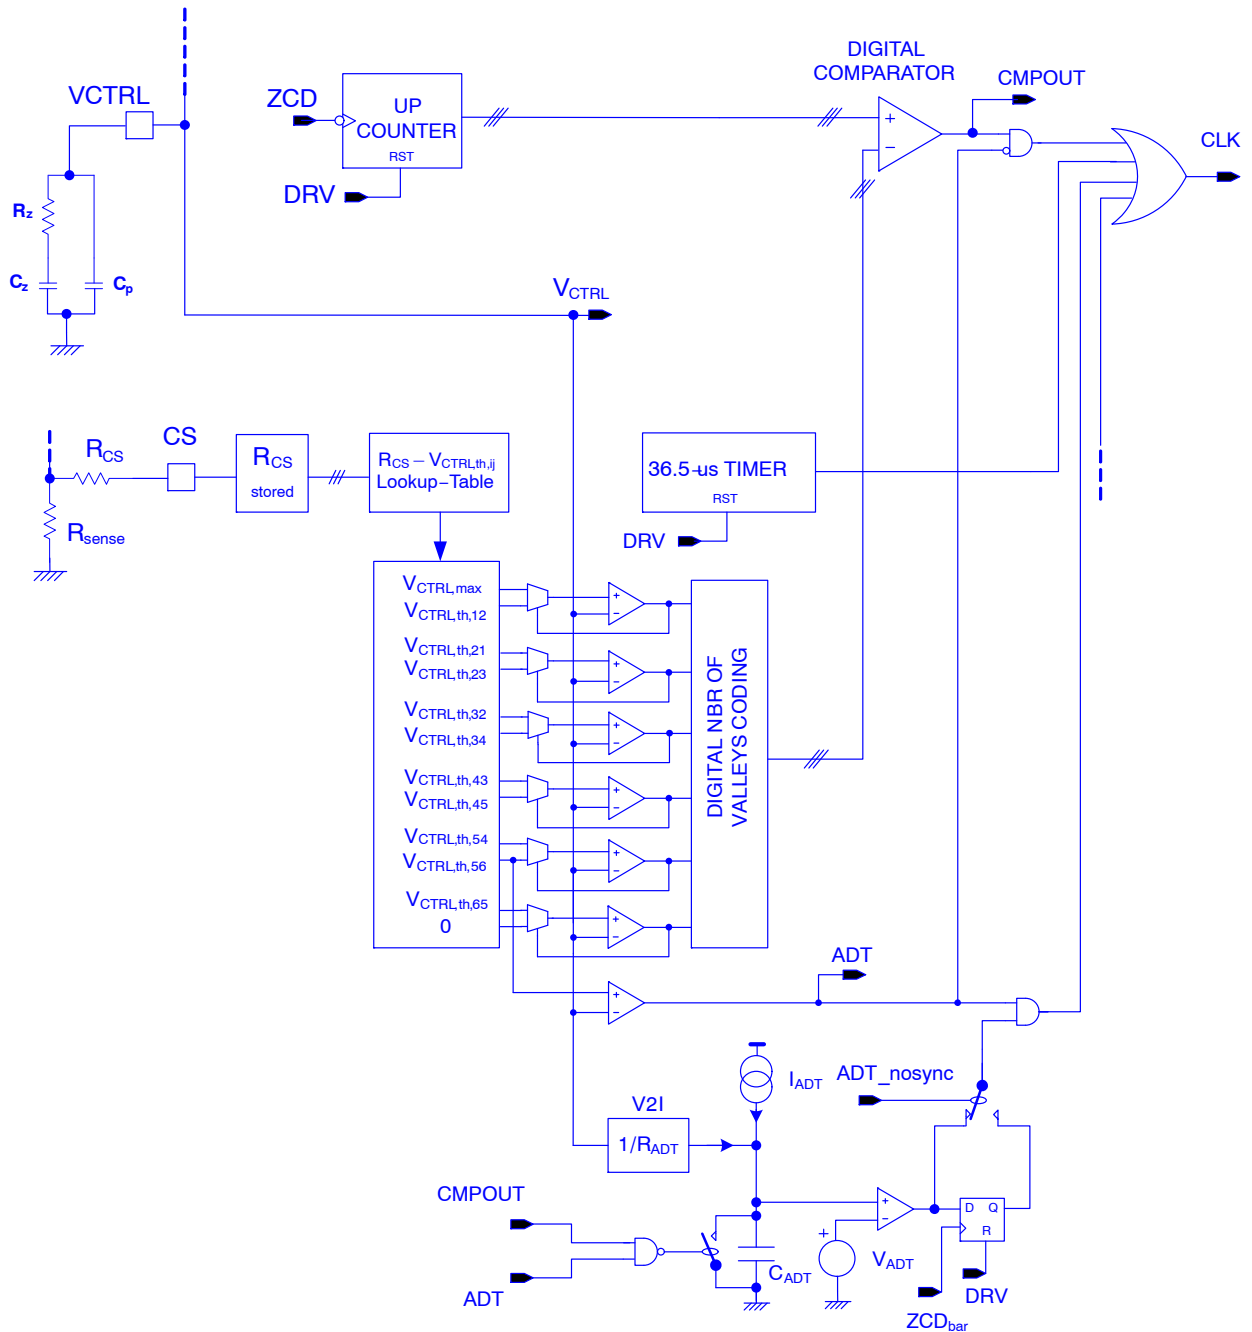

Figure 4. Valley Count Turn-on Block Diagram
- **Valley Count Frequency Fold-back:** NCL2801 is designed to drive PFC boost stages in so-called Valley Count Frequency Fold-back (*VCF*). In high load current condition, the circuit classically operates in *Critical conduction Mode (CrM)* also called 1st valley switching. When output power is decreasing, if a threshold is reached (determined by sensing the CS pin impedance during initial power up), a dead time based on a number of valleys is added. The number of valleys will increase, each time a dead time window (based on  $V_{CTRL}$  value) is entered. By construction, this counting process will avoid valley hopping during the mains voltage period. If the output power continues decreasing and the 6th valley is reached, extra “analog” dead time will be added based on a voltage ramp (see Figure 4). On-time will be synchronized with a valley. A timer will clamp the total switching period to not exceed 36.5  $\mu$ s (the switching frequency will never go under about 27.4 kHz). The switching frequency depends on output voltage, input voltage, and boost inductor value, and increases as the load power increases. Hysteresis is added to the  $V_{CTRL}$  control windows to avoid valley hopping during steady state conditions. *VCF* maximizes the efficiency at both nominal and light load. Similarly to *FCCrM* controllers, an internal circuitry allows near-unity power factor even when the switching frequency is reduced.
valley number count up to 6 valleys (the number of valleys between end of inductor demagnetization and power MOSFET turn-on determines the dead time value). After counting is done, the power MOSFET turns on at drain voltage valley. When 6th valley is reached and VCTRL voltage stays under 0.77 V, an extra “analog” dead time is added based on a voltage ramp (see Figure 4). The added analog dead time tADT is based on 0.77 V minus VCTRL value. tADT will be equal to zero when  $(0.5\text{ V} - V_{CTRL}) = 0\text{ V}$  and will increase monotonically versus VCTRL decreases while VCTRL is under the 0.77 V threshold corresponding to  $V_{CTRL,th,56}$ . The analog dead time added tADT will equal typically 20 μs when VCTRL=0.5 V.
means of counting the falling edges of the ZCD signal until the counter reaches the number of valleys set by the window in which the VCTRL pin voltage is (see Figure 4). The 3-bit counter allows to work “Valley synchronized” up to 6 valleys. When the 6th valley is reached, and VCTRL is lower than 0.770 V ( $V_{CTRL,th,56} = 0.770$  V whatever frequency foldback threshold setting), an additional analog dead time will be added to the 6 valleys dead time and there will be valley synchronization turn-on of the power MOSFET ( $ADT\_nosync = 0$  by default) based on falling edge of ZCD signal. The total dead-time (number of valleys and extra analog dead-time) will not exceed 36.5  $\mu$ s. As a result of this timer the minimum switching frequency will not go under 27.4 kHz.
There will be a different DCM to CrM threshold than CrM to DCM making an hysteresis to avoid valley hopping (see Table 7 and Figure 4).
results from output power decrease. We can also mention looking at Figure 7 and the specified frequency foldback thresholds of Table 7 that  $V_{CTRL,th,56}$  which is the  $V_{CTRL}$  threshold at which we force counting 6 valleys, has always the same value. This threshold is also called  $V_{CTRL,ADT}$  because when  $V_{CTRL}$  pin voltage falls under this threshold, an analog dead-time starts to be added to the dead-time determined by counting 6 valleys. The lower  $V_{CTRL}$  pin voltage goes under  $V_{CTRL,ADT}$  threshold, the more analog dead time is added. An example on how the analog dead time can be added is shown in the circuit of Figure 4 and the correspond power MOSFET drain voltage is shown in Figure 3.